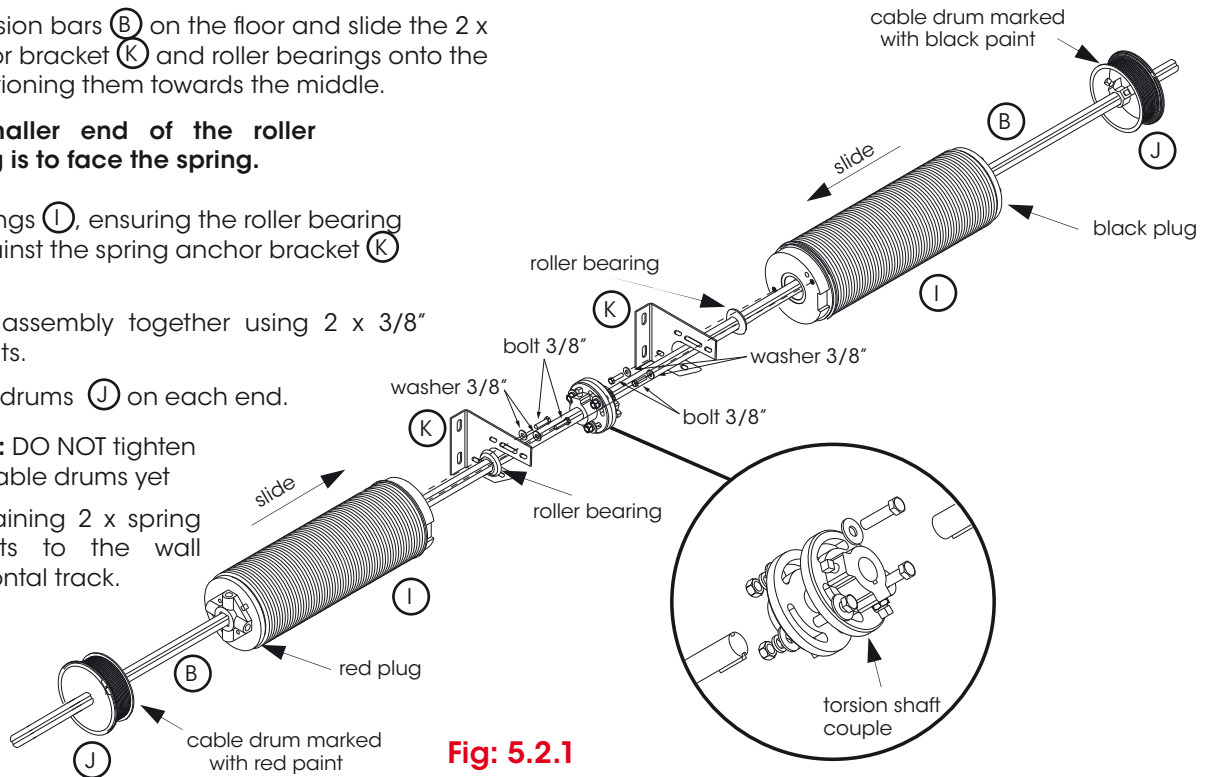

Fig. 5.2.1
The springs and drums for the counterbalance system are now colour coded to easily identify which side of the centre bracket the spring is placed. Fig. 5.2.1.
- Position the torsion shaft couple in the middle as shown in Fig 5.2.1, the axles should be flush with each couple allowing free rotation to occur.